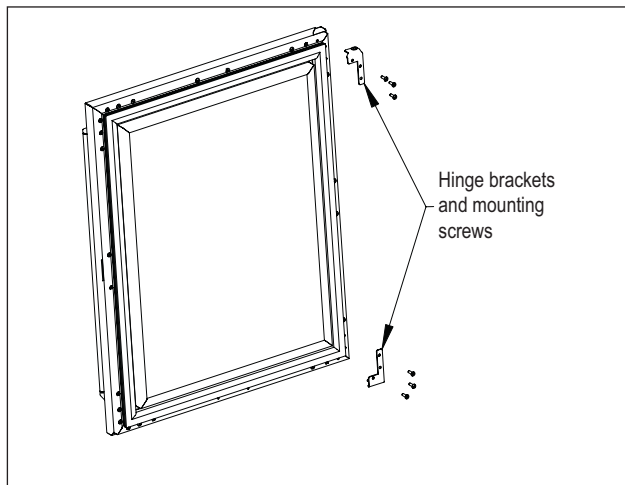

Figure 6. Door Brackets
- Remove the top and bottom hinge brackets from the door (Figure 6). Retain the screws for later use.